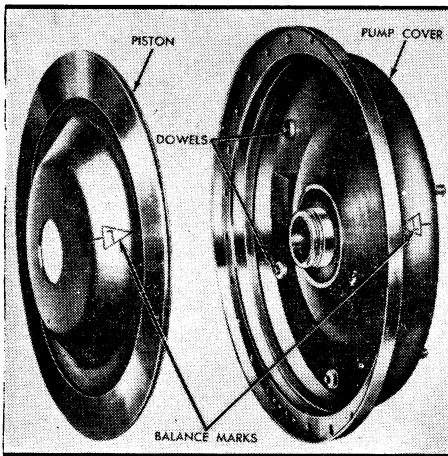

Fig. 22 Lockup clutch piston and converter pump cover balance marks and dowels
2. Install piston in converter pump cover so that dowel holes in piston engage dowels in cover, Fig. 22. Be sure that balance marks on both parts are also aligned. *If the dowels do not enter the dowel holes, the lockup clutch will not disengage and the converter will not function.*